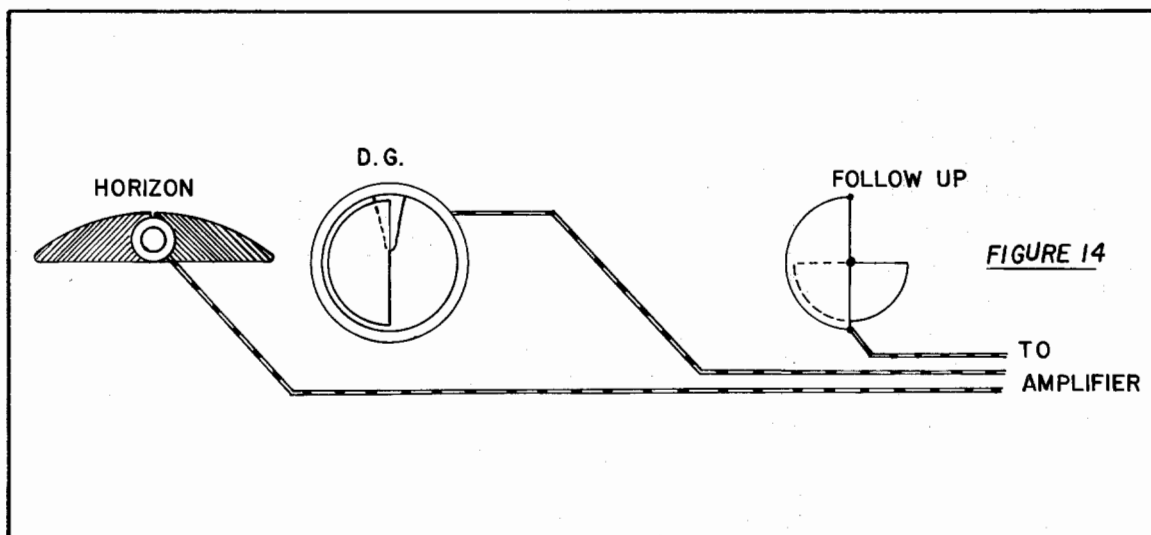

Figure 1-13.
D. LEVELING CONDENSER: The adjustment knob at the amplifier is provided to adjust the roll circuit frequency so that it is on frequency when the airplane is in level flight on heading. This variable condenser is the final or adjustment stage and is tuned to produce level when all other components are in the correct positions shown in the completed circuit. (Figure 1-13)